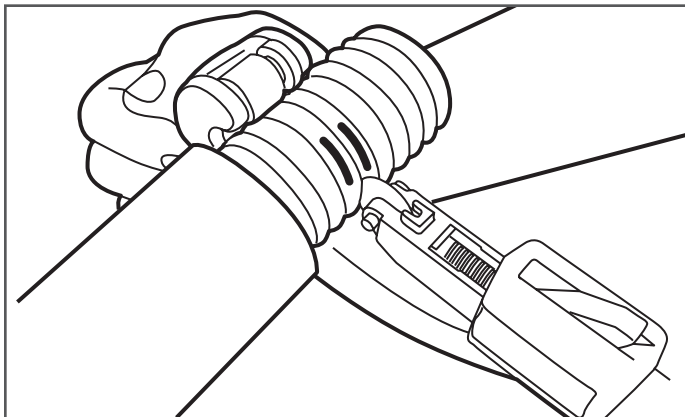

Figure 7-18
19. Remove middle section of DoubleTrac® fitting and cut through the corrugated piping using a tubing cutter with a sharp wheel. Cut must be centered in the valley between the two marked corrugations. Use full circular strokes in one direction and tighten roller pressure slightly after each revolution. DO NOT over tighten roller which may flatten tube (Figure 7-18).